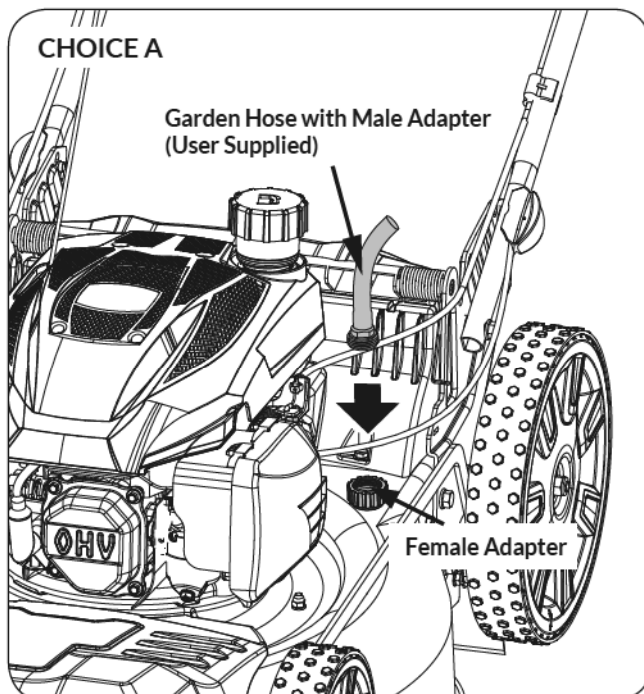

Figure 13
- Attach the garden hose with the male adapter (user supplied) to the female adapter on your deck's surface. (See **Figure 13**).